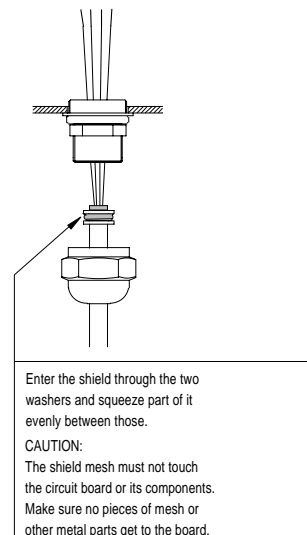

Figure 4. Earthing of power output cable shield
- 5 Enter the output power cable(s) through the rightmost cable gland(s). For better protection against RF interference, follow the earthing instructions of the cable shield in Fig. 4. Assure that no shield mesh gets on the circuit board.